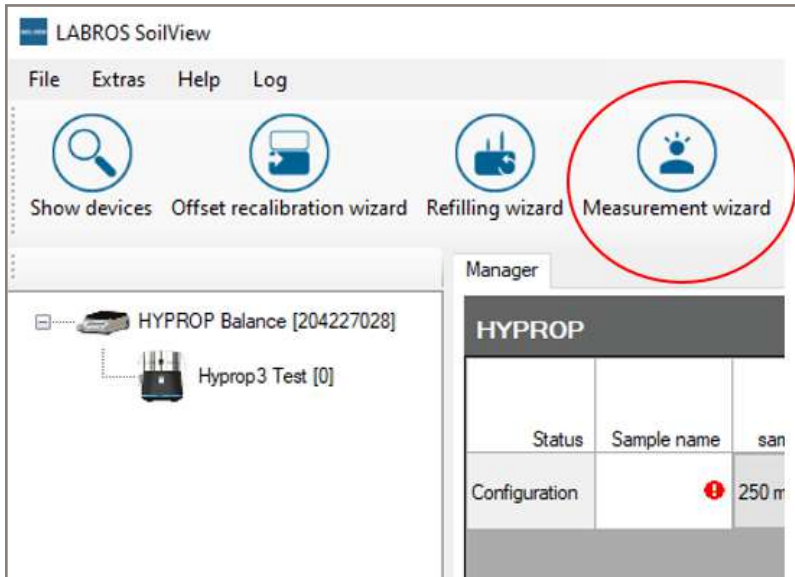

Figure 60 Measurement Wizard icon
1. Open the **Measurement Wizard** by clicking on the **Measurement Wizard** icon (Figure 60).
4. Select **Apply** to start the measurement (Figure 60).